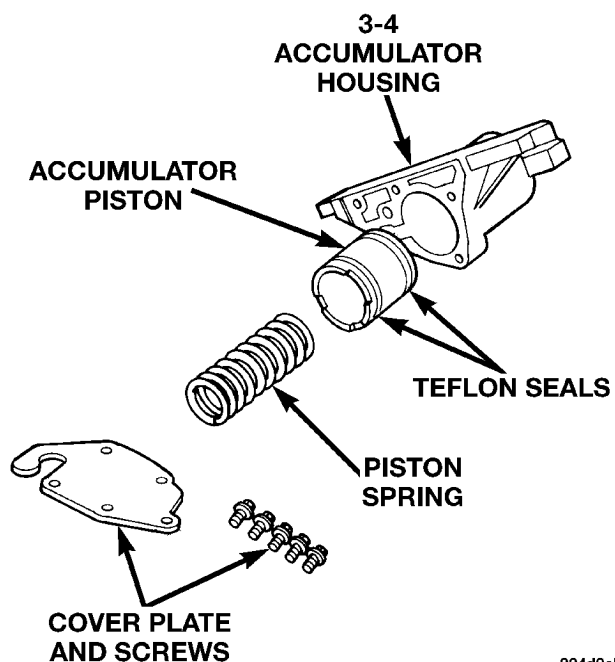

Fig. 70 Accumulator Housing Components
- (1) Remove end plate from housing.
- (2) Remove piston spring.
- (3) Remove piston. Remove and discard piston seals (Fig. 70).
- (1) Lubricate accumulator piston, seals and housing piston bore with clean transmission fluid (Fig. 70).
- (2) Install new seal rings on accumulator piston.
- (3) Install piston and spring in housing.
- (4) Install end plate on housing.